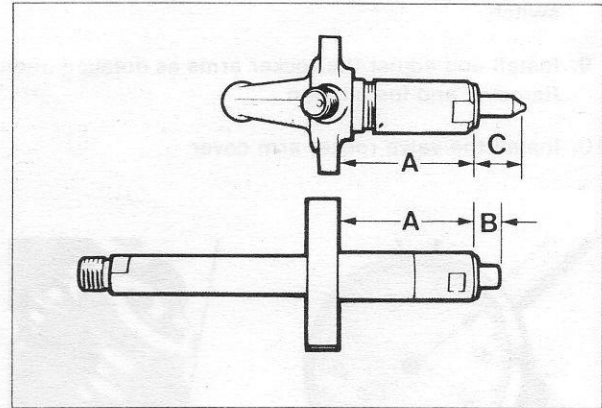

Fig. 10 - Adjusting Adaptor
3. Select a suitable copper sealing washer for the adaptor. Adjust the adaptor so that the overall length of the assembly (from clamping plate to end of adaptor) is approximately the same as the injector body (Fig. 10).